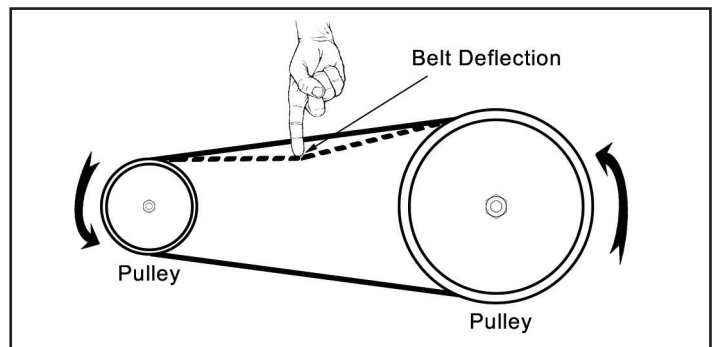

FIG. 31
3. Check the *Cutterhead Drive V-Belt* (#228, FIG. 30, A) tension with thumb pressure. The drive belt should not give more than 3/8" in the center. FIG. 31.